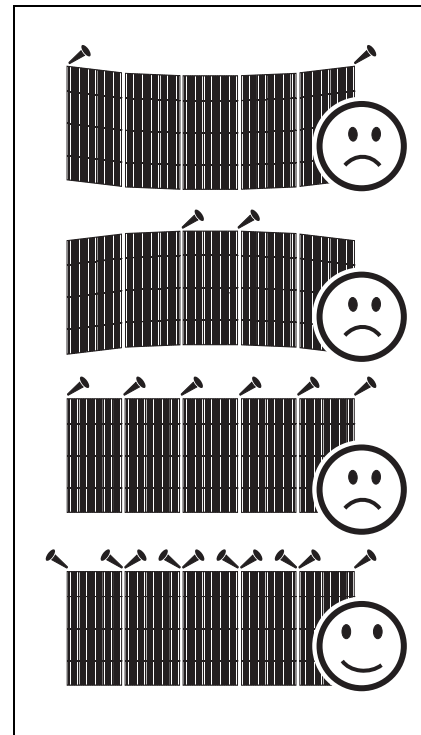

Figure 5: Avoiding stress on panels
2. See Figure 5. Check that the structure will not flex under the weight of the panels. Hanging panels from a structure that is not straight will place a strain on panels. Damage caused to panels by mechanical stress is not covered by the product warranty.